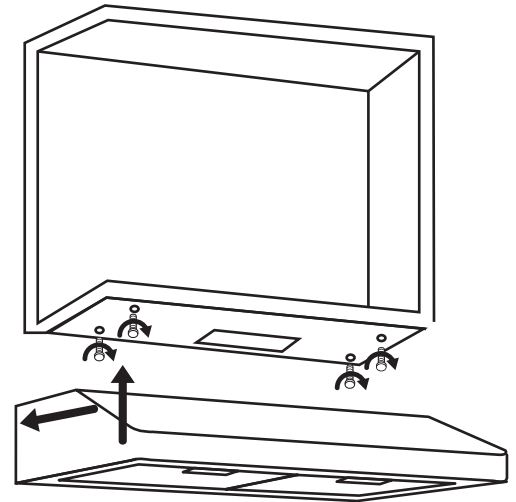

Figure 6
- Using measurements provided on Page 7, measure and drill 4 holes into bottom of cabinet (see figure 6).
- Align range hood to the holes in the bottom of the cabinet and screw in using the supplied screws (see figure 6).